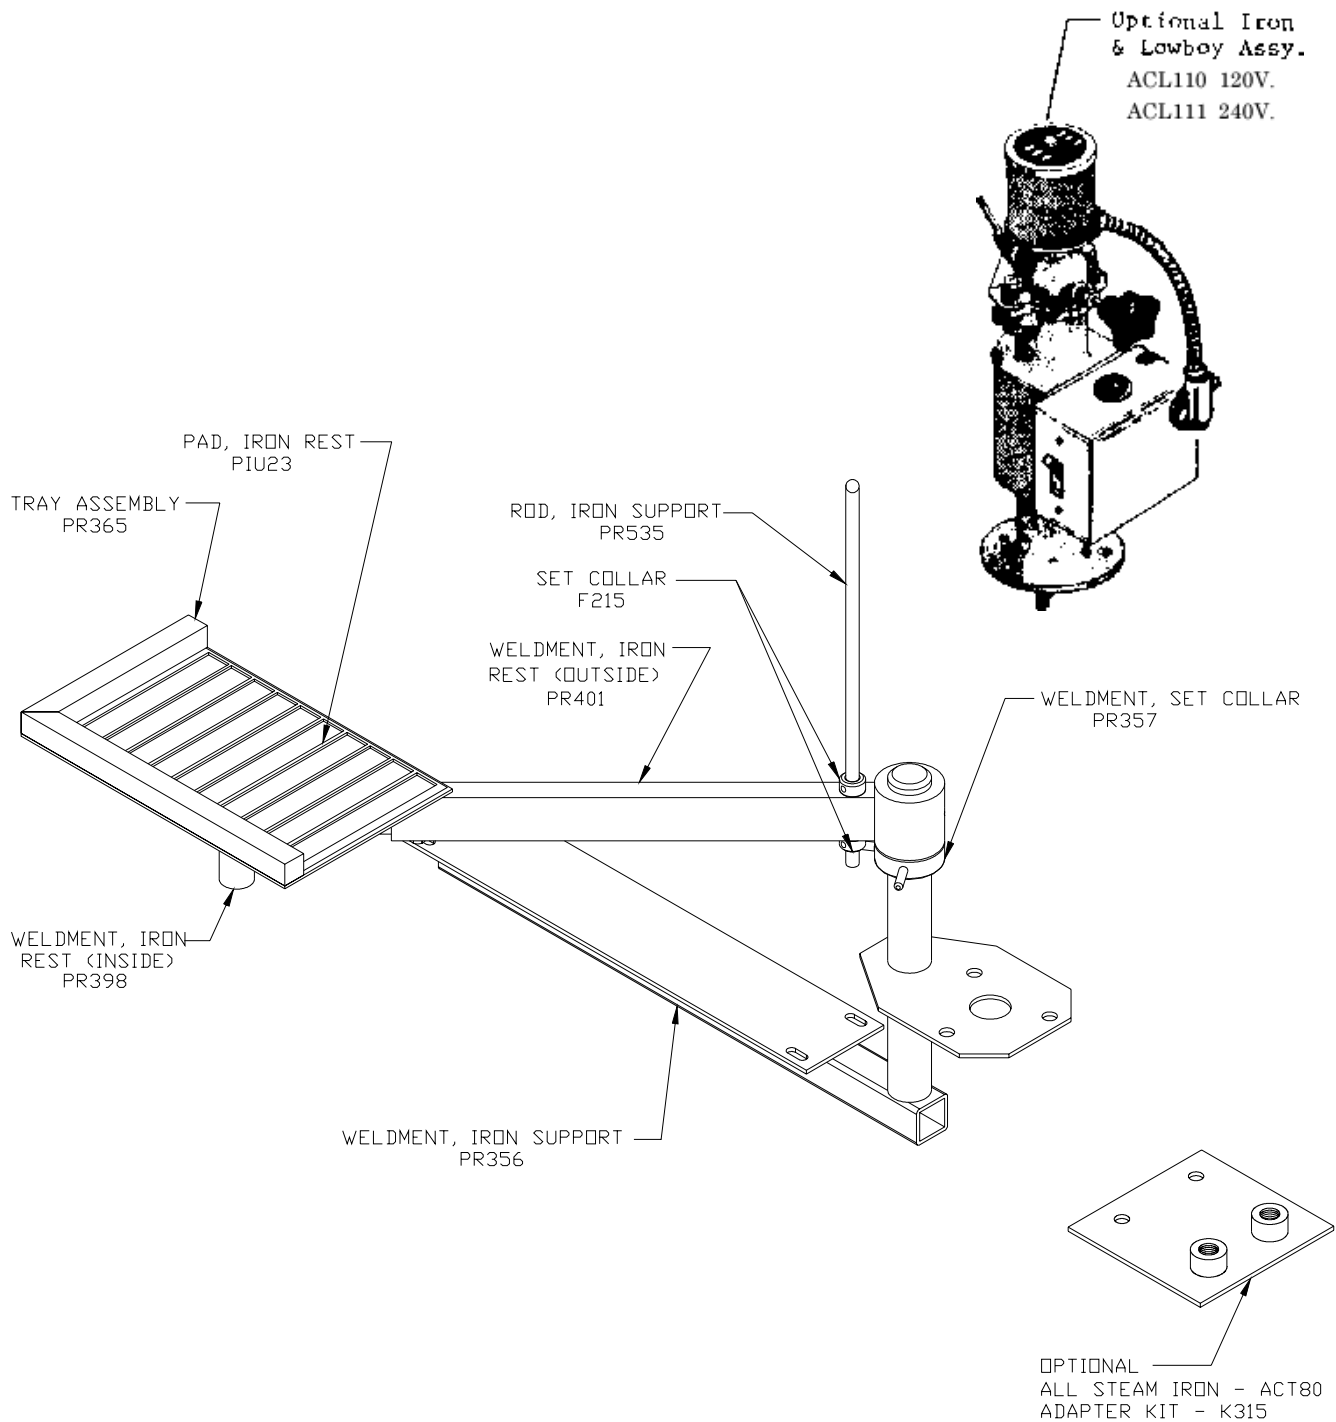

FIGURE 1 (IRON REST)
3. The Lowboy bracket (PR356) has been installed on the table at the factory. Then assemble the iron rest assembly (PR365, PR398 & PR401) to the shaft of PR356. (See Figure 1)